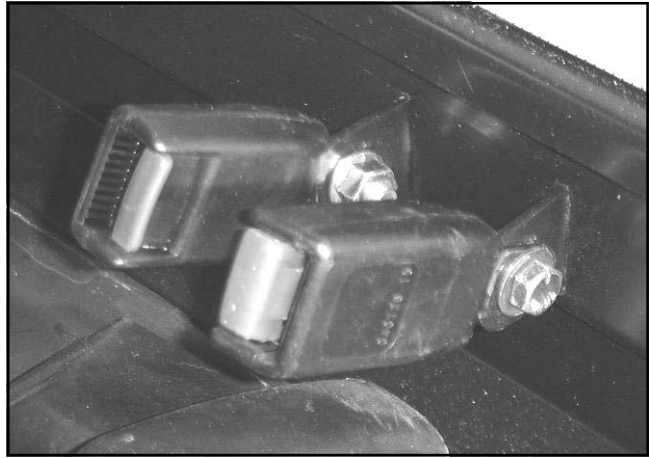

Fig. 20.1 (seat belt receivers)
20.1 Install each seat belt receiver to the center of the lower rear panel using one 7/16-20 x 1" long hex head bolts, one steel washer, and one locknut. See fig. 20.1.